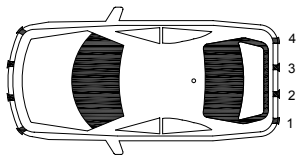

Fig.2 - Definition of Sensor's Serial Numbers
*Note: Sensors must be installed in order of serial number. If not, the diagnostic function may reference the wrong sensor. See Figure 2.*
Note: Sensors and trunk harness connectors are serialized and must be connected in position and order as shown in Figure 2; otherwise the display will indicate improper location of object.